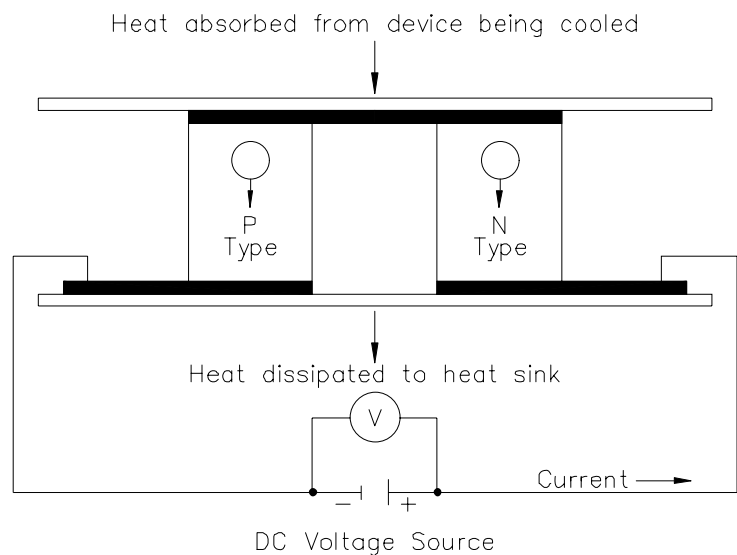

Figure 1: Thermo-electric element (Peltier)
All Classic coolers use thermo-electric elements (Peltiers) to cool the sample gas to the desired dew point temperature. A Classic Thermo-Electric (TE) Cooler is best illustrated as a small heat pump with no moving parts. The Peltier operates on direct current and may be used for heating or cooling by reversing the direction of current flow. This is achieved by moving heat from one side of the module to the other with current flow and the laws of thermodynamics. A typical single stage Peltier (Figure 1) consists of two ceramic plates with p- and n-type semiconductor material (bismuth telluride) between the plates. The elements of semiconductor material are connected electrically in series and thermally in parallel.